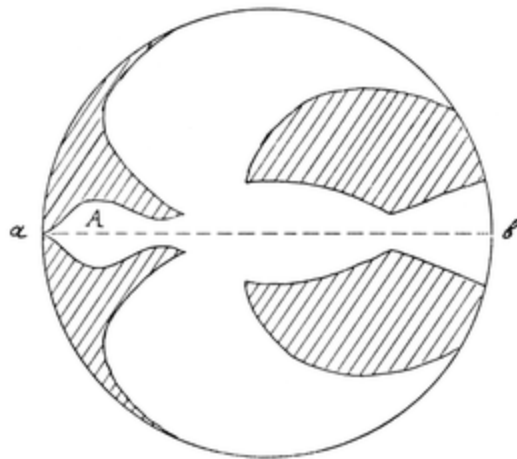
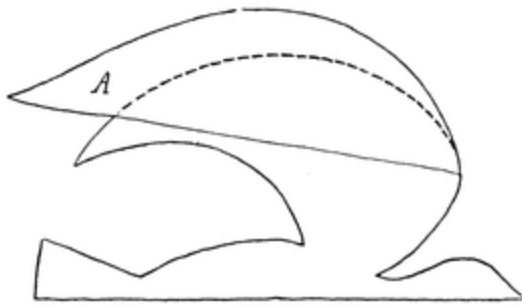

FIG. 476
FIG. 477
In making one's first glider one cannot do better than copy a bird. On a piece of paper draw a circle, fold it in half, draw a bird on one half, as in Fig. 476, cut it out, when the paper is opened it will appear as in the figure. If this bird is thrown head first toward the ground, it will probably fall. If two little bits of cardboard are gummed on each side of his head, he will make a better flight and land on the ground after making a gentle curve. A still better bird may be cut from cardboard, a half cut is then made along *a b* to bend it, and the head is weighted with sealing-wax. How well this bird flies depends on the weight, and to some extent on the shape of the bird. Birds of various shapes and with different amounts of sealing-wax should be tried, until one is made that glides to the ground in a long, graceful curve.
(2) If the head in Fig. 476 is not long enough for a graceful flight, a longer head cut from cardboard can be pasted on.
(3) If the bird dives quickly down head first, you know that the head is too heavy, or the neck too long.
(4) If the bird rises and then falls the head is too light and probably not long enough.
(5) The wings can be made larger if necessary by the addition of tissue-paper wings gummed on as A in Fig. 477.